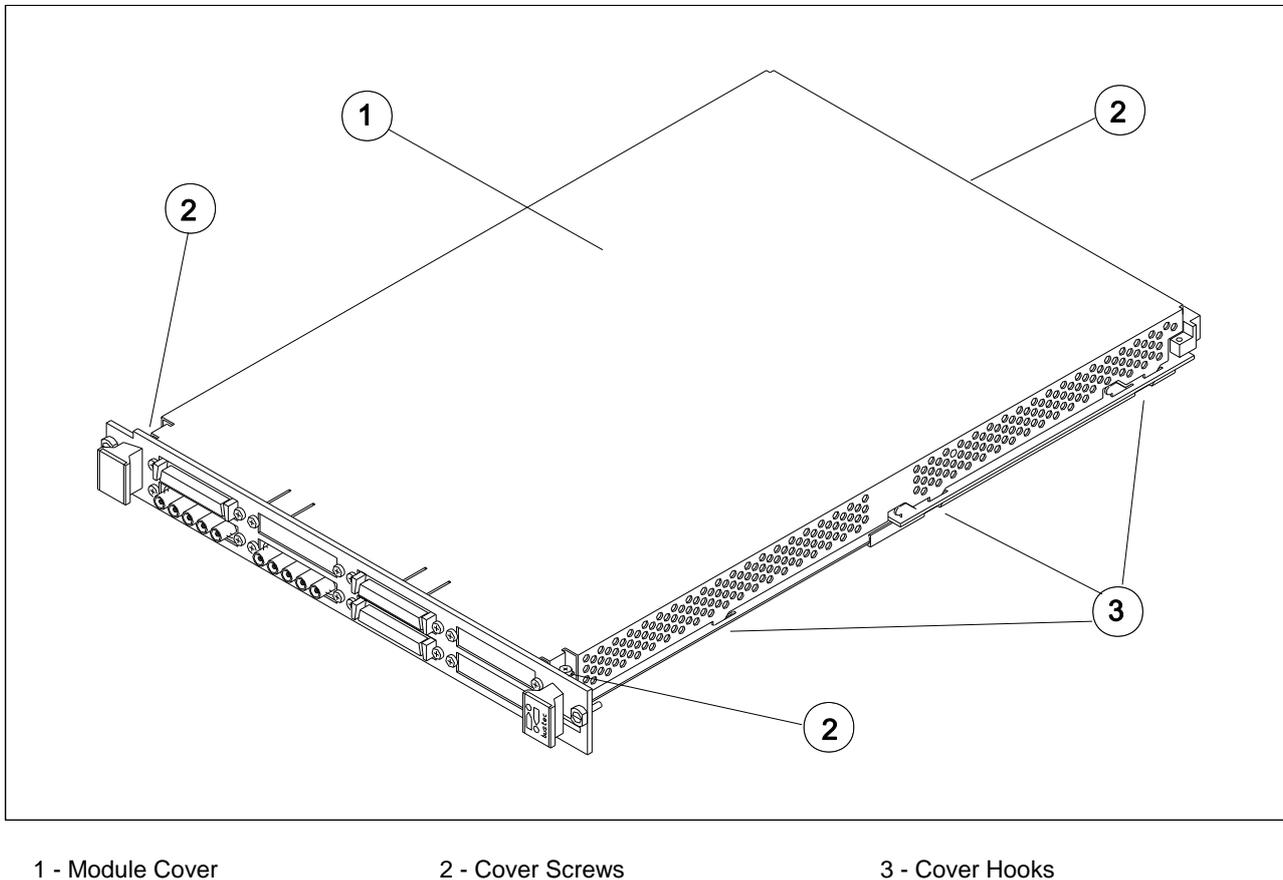

Figure 1 – Removing the ProDAQ module cover
To remove the top cover, remove the one countersunk screw in the back and the two panhead screws towards the front panel (2), that hold the cover in place. Remove the cover by sliding it out of its position towards the VXIbus connectors and up. Take special care about the hooks (3) holding it in place. Try not to lift the cover straight up. See Figure 1 for the location of the screws.